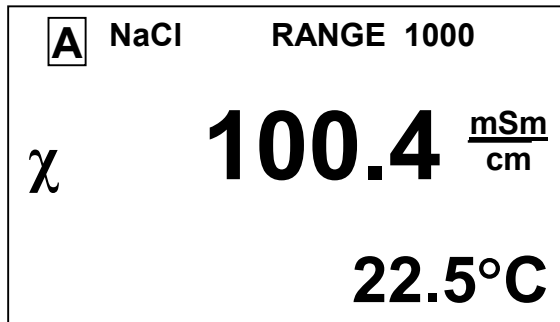

Fig. 1.5
- single-channel (A or B) measuring mode screen is as shown in Fig. 1.5 and 1.6;